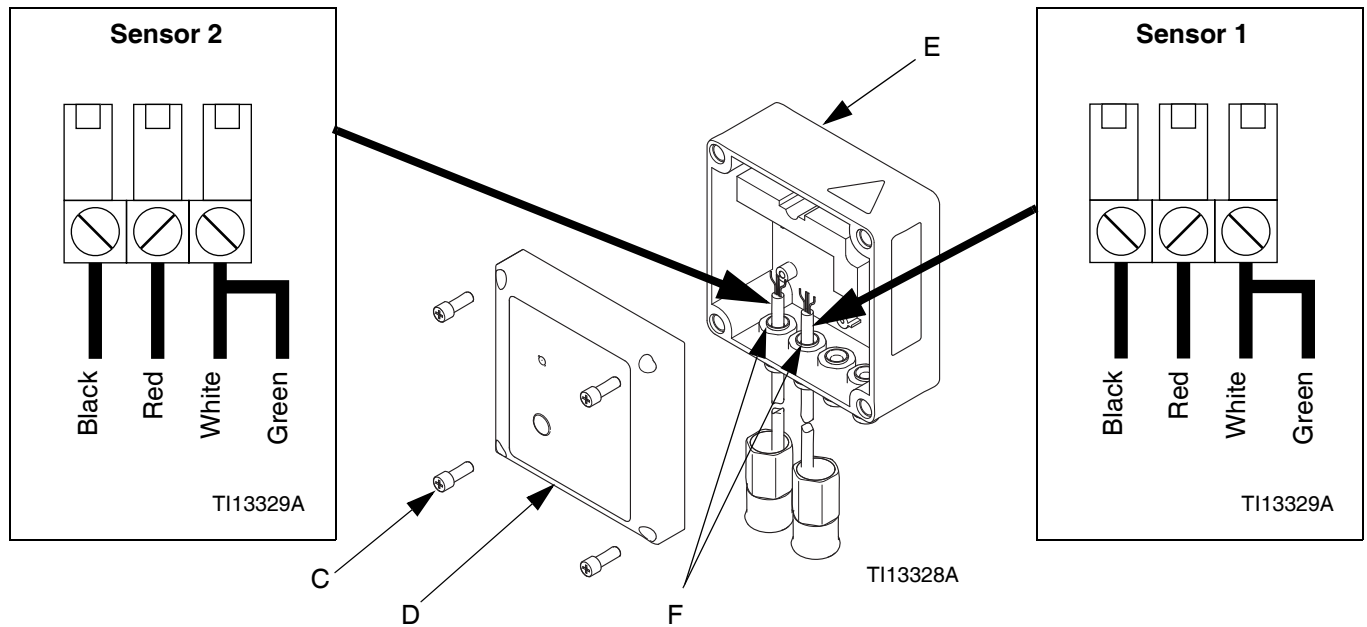

FIG. 4. Sensor Wire Connections in Control Box
4. Unscrew four screws (C) and remove the cover (D) from the control box (E). See FIG. 4.
5. Route the sensor wires into the control box through the fittings (F) at the bottom of the box. Tighten the fittings.
6. Attach the lead wires to the sensor terminals as shown in FIG. 4.